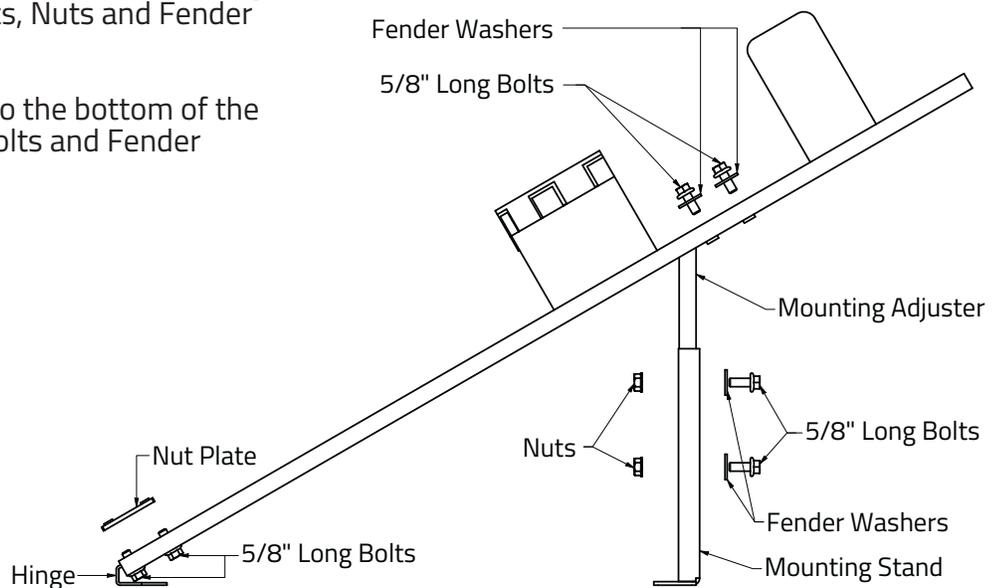

Figure 1
1. Use the 5/8" Long Bolts and Nut Plate to fasten the Hinge to the bottom of the gun rack. (See Figure 1)